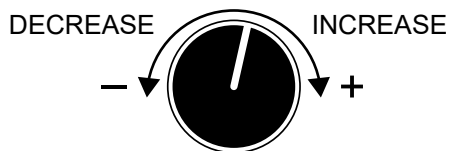

Figure 8. Voltage Regulator
- If the voltage is not within the specified tolerance, use the **voltage regulator** (Figure 8) to increase or decrease the desired voltage.